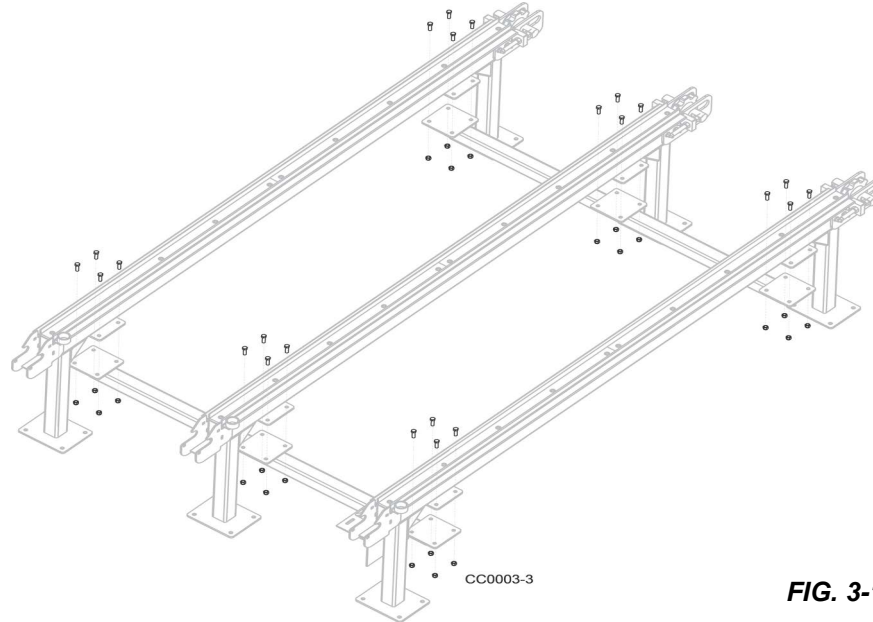

FIG. 3-1
8. Install the extension's framing cross members in the same way as the base unit's. See FIG. 3-1.